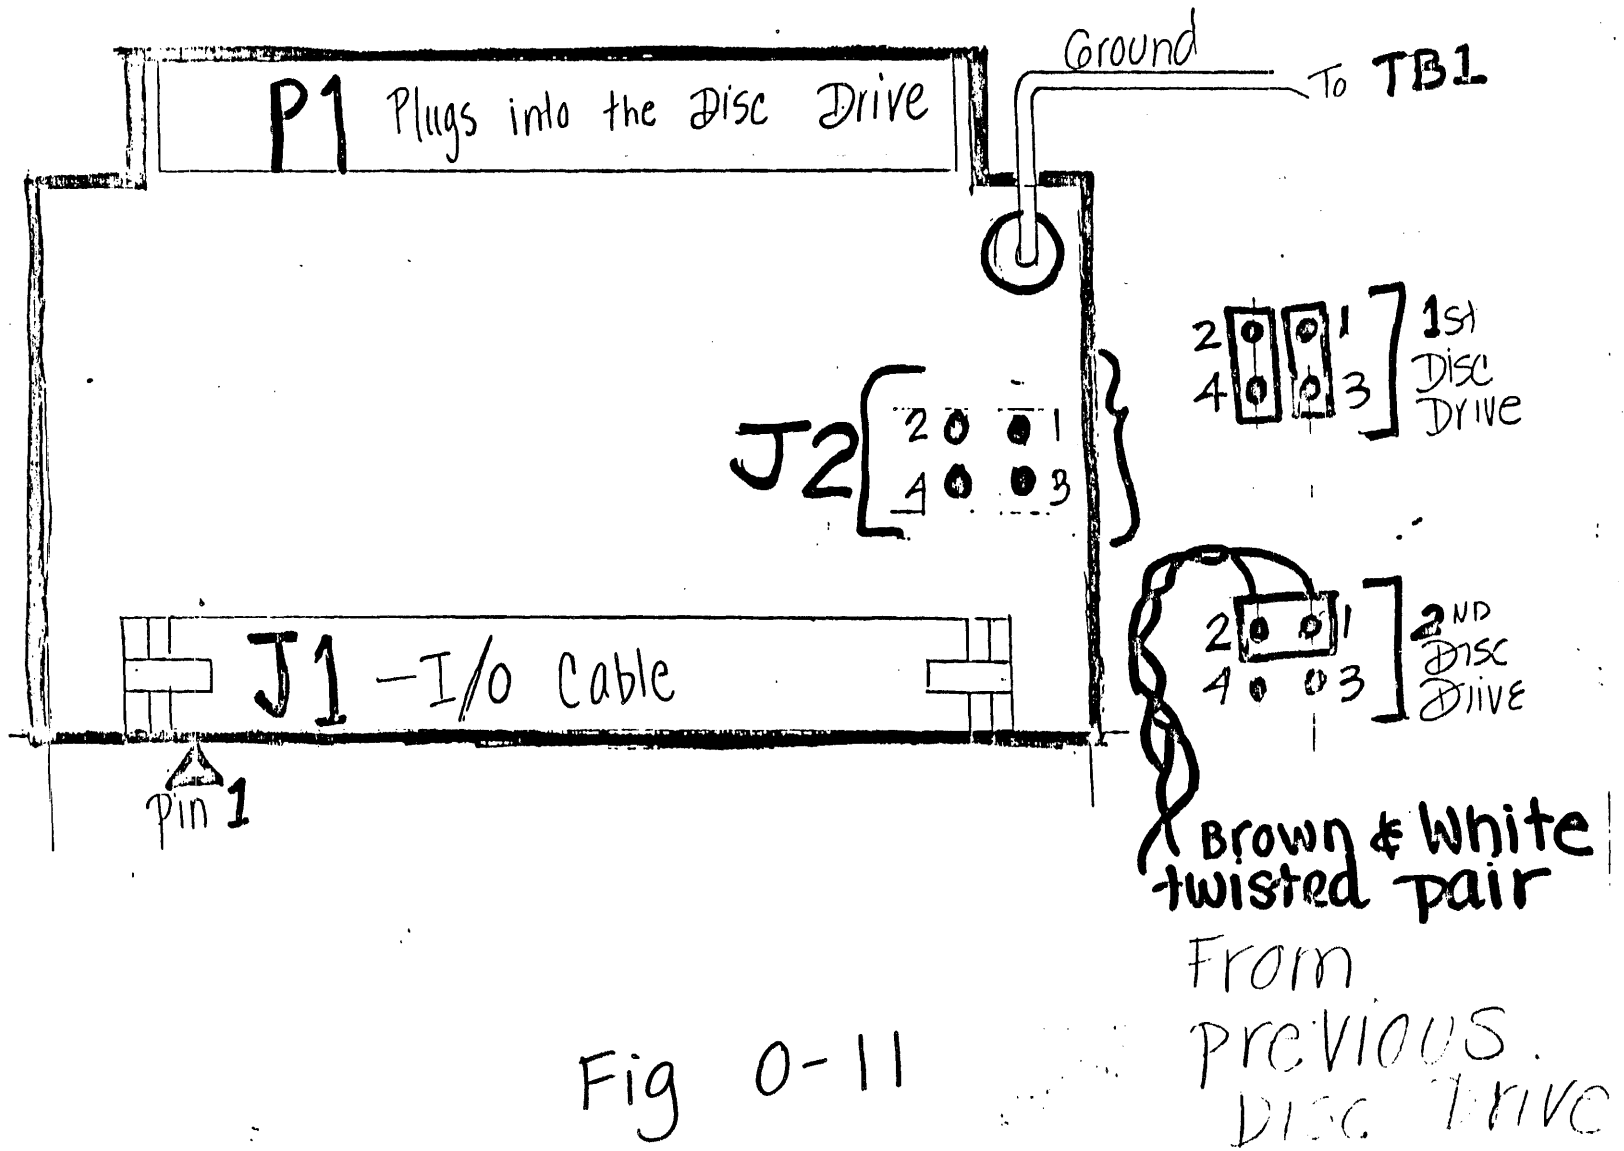

Fig 0-11
4. Power Sequencing/Terminator board has two pin patches. Refer to Figure 0-11.